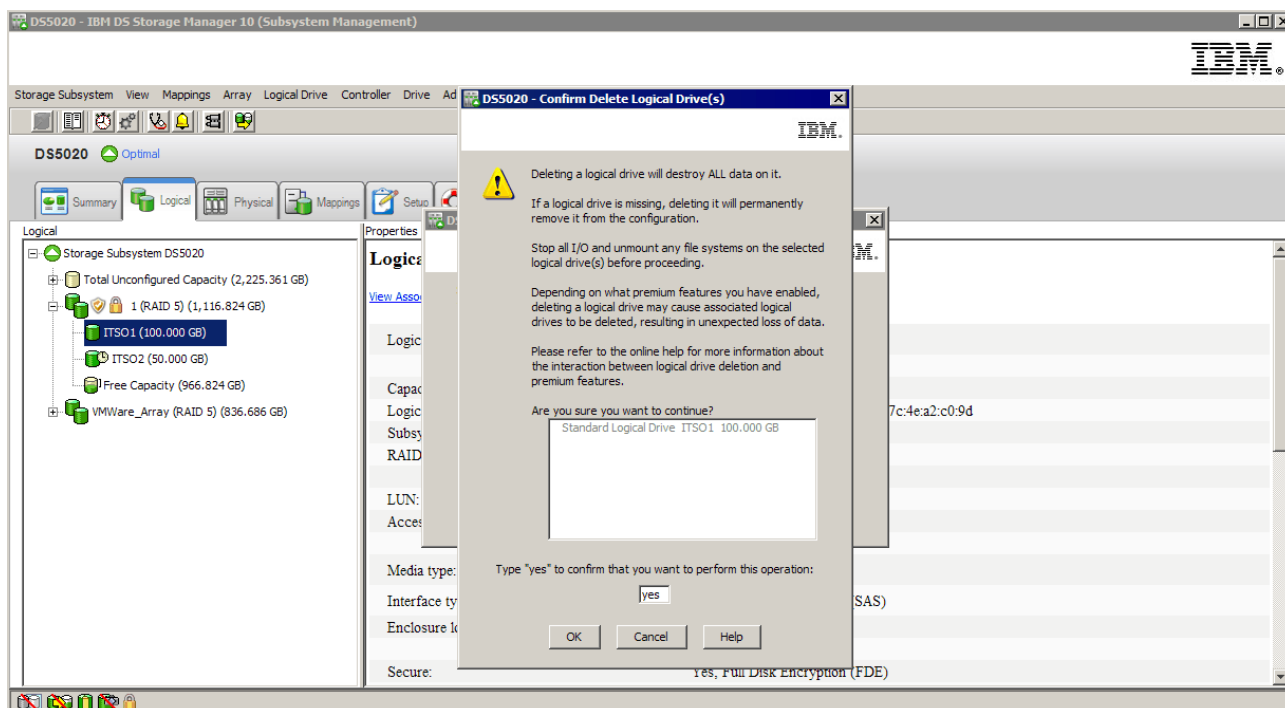

Figure 3-117 Confirm the selection to be deleted
- Now confirm your action to delete the logical drives selected by typing “yes” into the box as shown in Figure 3-117.